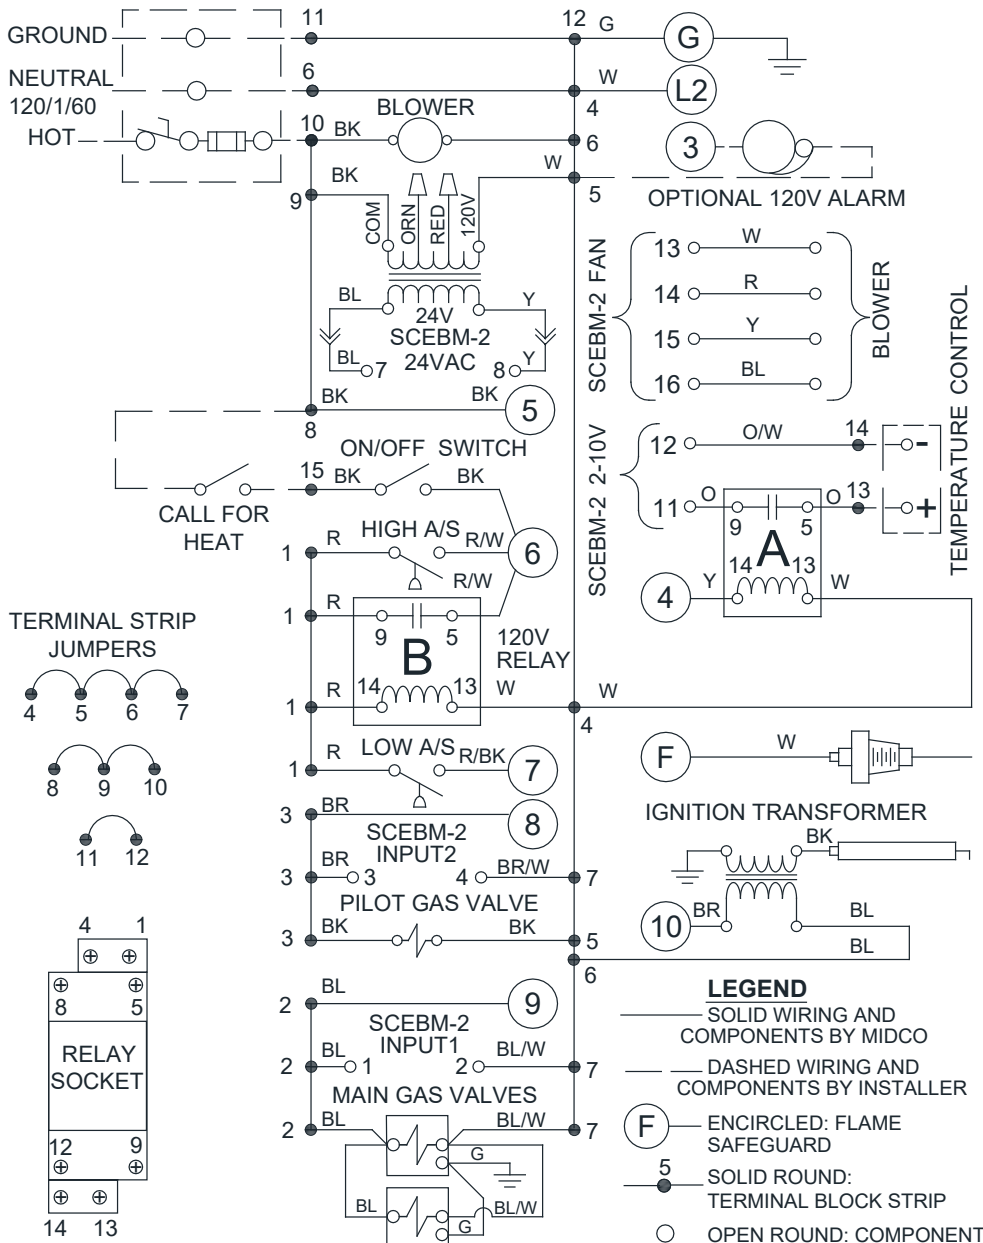

Figure 4A: Wiring Diagram for the VA series models
⚠ CAUTION: Refer to wiring diagram located on the inside of the burner housing cover. Before proceeding verify burner model number for correct wiring diagram. Refer to Figures 4A / 4B / 4C / 4D for 120V models and 4E for 24V models.
- for **Honeywell control** - hot wire to strip terminal 10, neutral 6—and that the neutral line is not subject to induced low voltage (check 6 to 11 earth ground) (refer to Figures 4A and 4B) ...
- for **Honeywell control** - 10 (Black), 6 (White), and 11 (Green) (refer to Figures 4A and 4B).
- for **Honeywell control** - positive 13 (+) and 14 negative (-) (refer to Figures 4A and 4B).
- for **Honeywell control** - 2 (Blue), 7 (Blue/White) and 12 (Green) (refer to Figures 4A and 4B).
- for **Honeywell control** - terminals 8 and 15 (refer to Figures 4A and 4B).